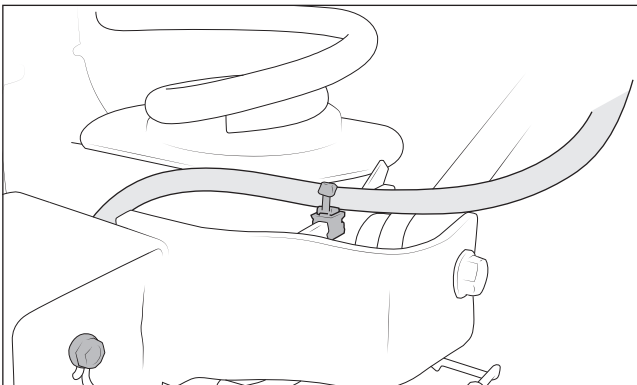

Figure 1
4. Remove the axle vent tube and clip from track bar bracket (fig. 1).